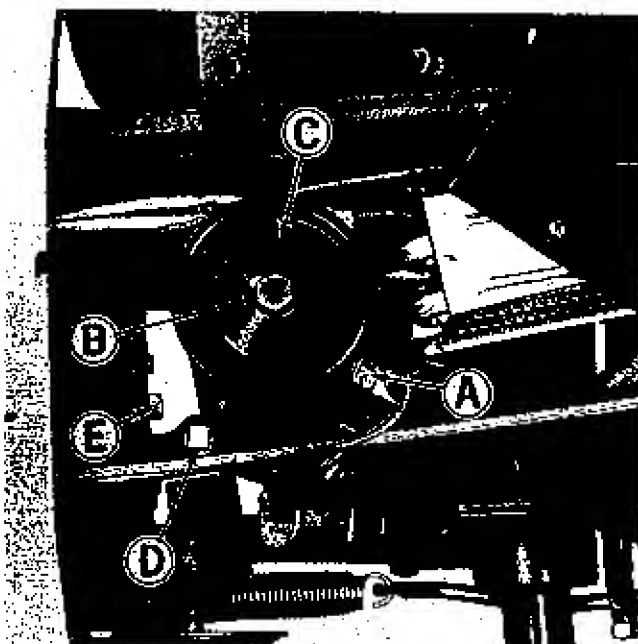

Figure 31. Hydrostatic transmission fluid reservoir and bevel gear housing located under seat deck.
See figure 31. The reservoir for the hydrostatic transmission oil must be kept filled to the bottom threads of check plug (A). To check the reservoir oil level remove plug (A). If oil is not up to the bottom threads of the hole, add Dexron automatic transmission oil. Adding transmission oil will be easier by removing nut (B) and reservoir cover (C). Clean cover (C) carefully before removing it to prevent dirt or foreign materials from contaminating the oil in the reservoir. After filling the reservoir to the level of check plug (A), replace check plug (A) cover (C), and nut (B), and tighten securely.
CHECK BEVEL GEAR BOX OIL LEVEL: See figure 31. The check and fill plug for the bevel gear box is located at (D). Remove it to check the oil level. The bevel gear box is properly filled when oil is visible at the bottom of the elbow. If filled to the top of the elbow, oil may be forced out